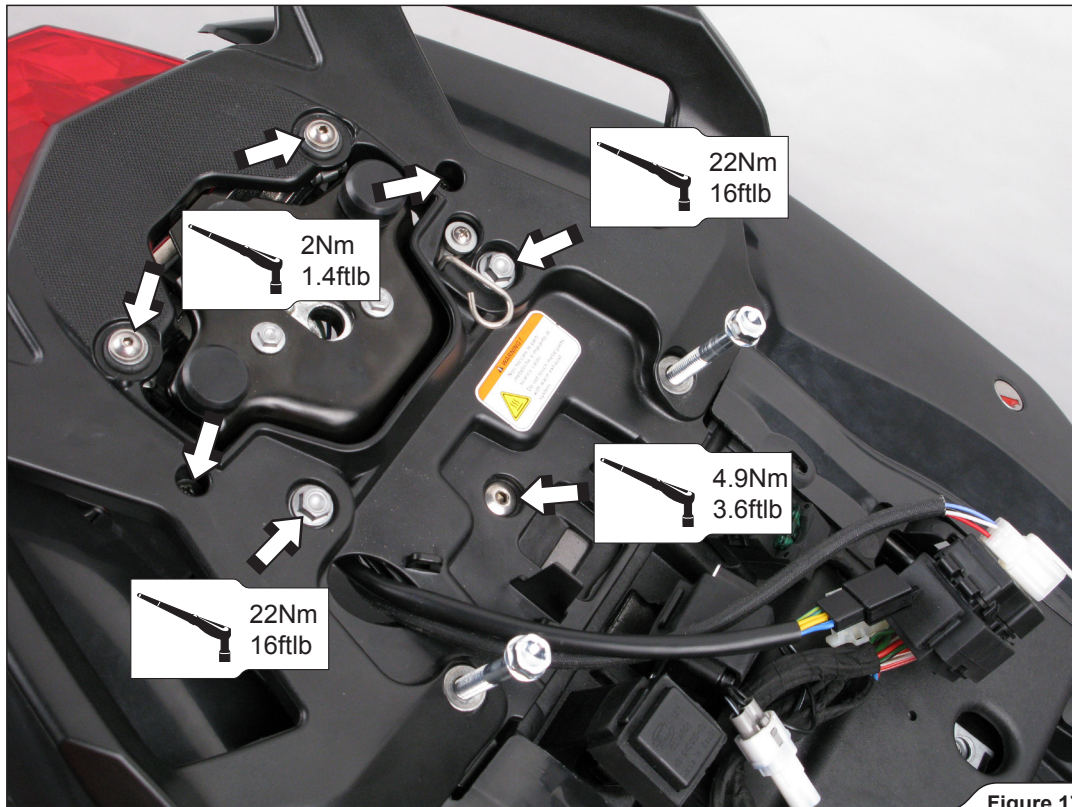

Figure 17
5. Install the stock passenger handle back onto the motorcycle. Tighten the mark bolts (**Figure 17**).